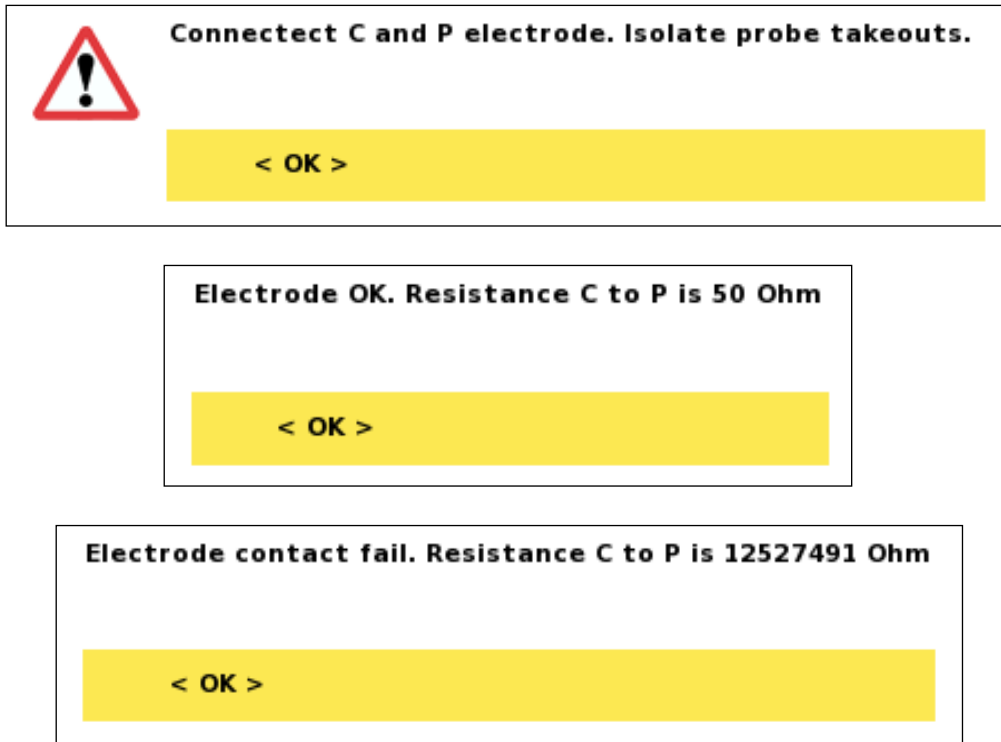

Figure 87 The Electrode Test dialogs
- Follow the instruction on the first dialog (Figure 87)